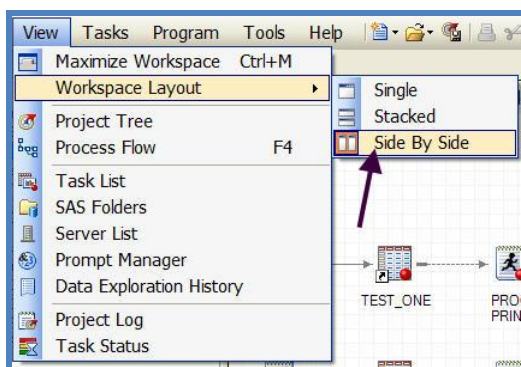

Figure 1. Splitting the Workspace.
**Workspace Splitting.** The workspace shown in Display 1 is not the default. It was split by using the menu commands shown in Figure 1. The “Side By Side” option works particularly well when the EG display is stretched over a dual monitor configuration and allows for two simultaneous operations to be viewed. It is wonderful for editing a file.